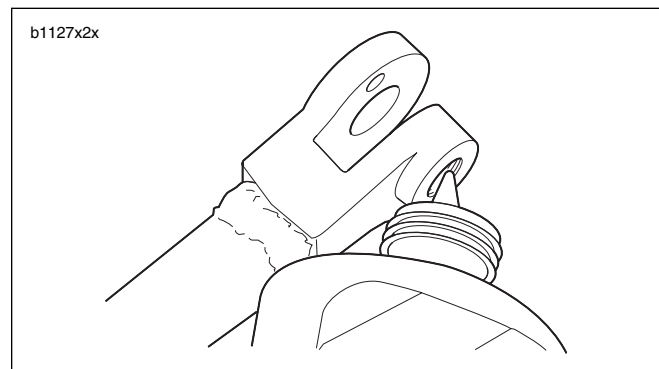

Figure 5. Threaded Area for Loctite Application
- b. See Figure 5. Apply LOCTITE 272 (Red) to threaded area (clevis) of sidestand leg.